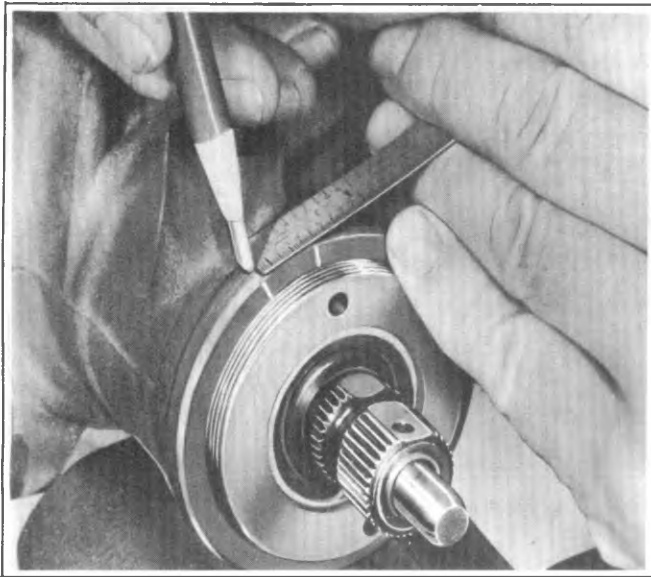

Fig. 3B-39--Measure Back and Remark Housing
6. Turn adjuster plug counterclockwise until the hole in the face of the adjuster plug, which was even with the first mark is in line with second mark (Fig. 3B-40).